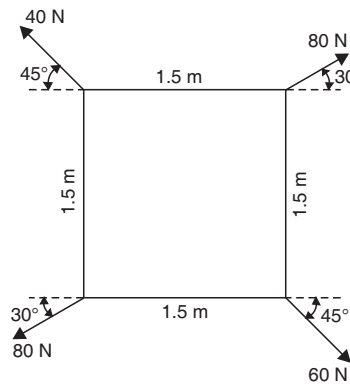

Fig. 3.36
**Example 3.9.** A body is under the action of four coplanar forces as shown in Fig. 3.36. Find the magnitude, direction and position of resultant of the given force system.